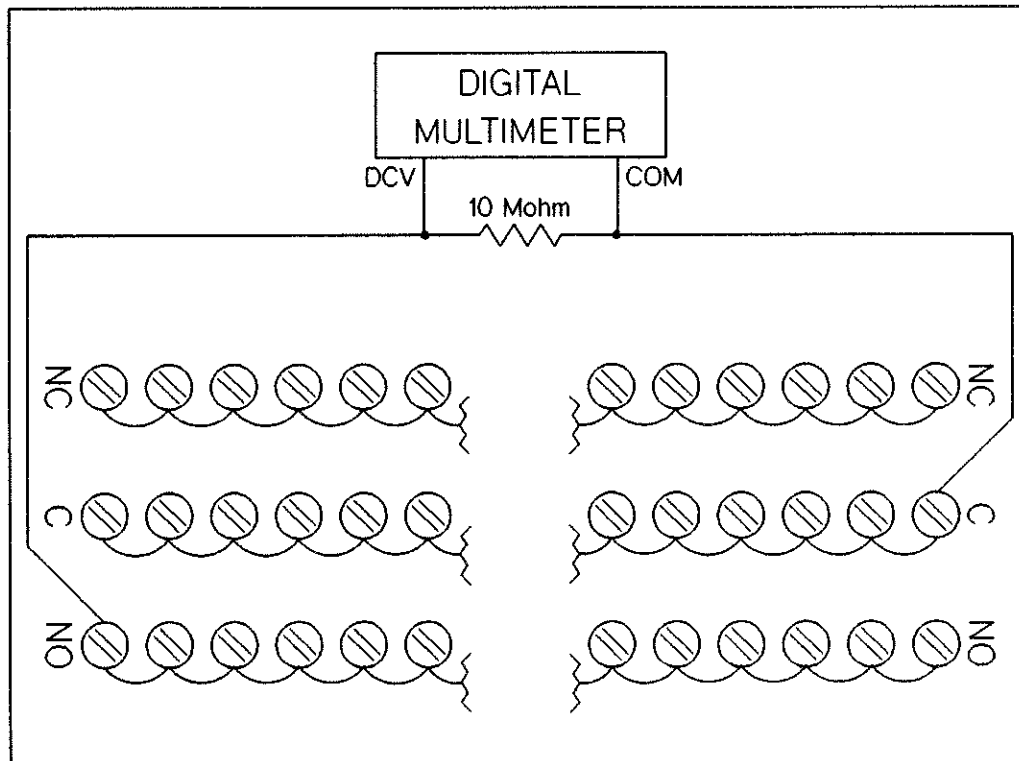
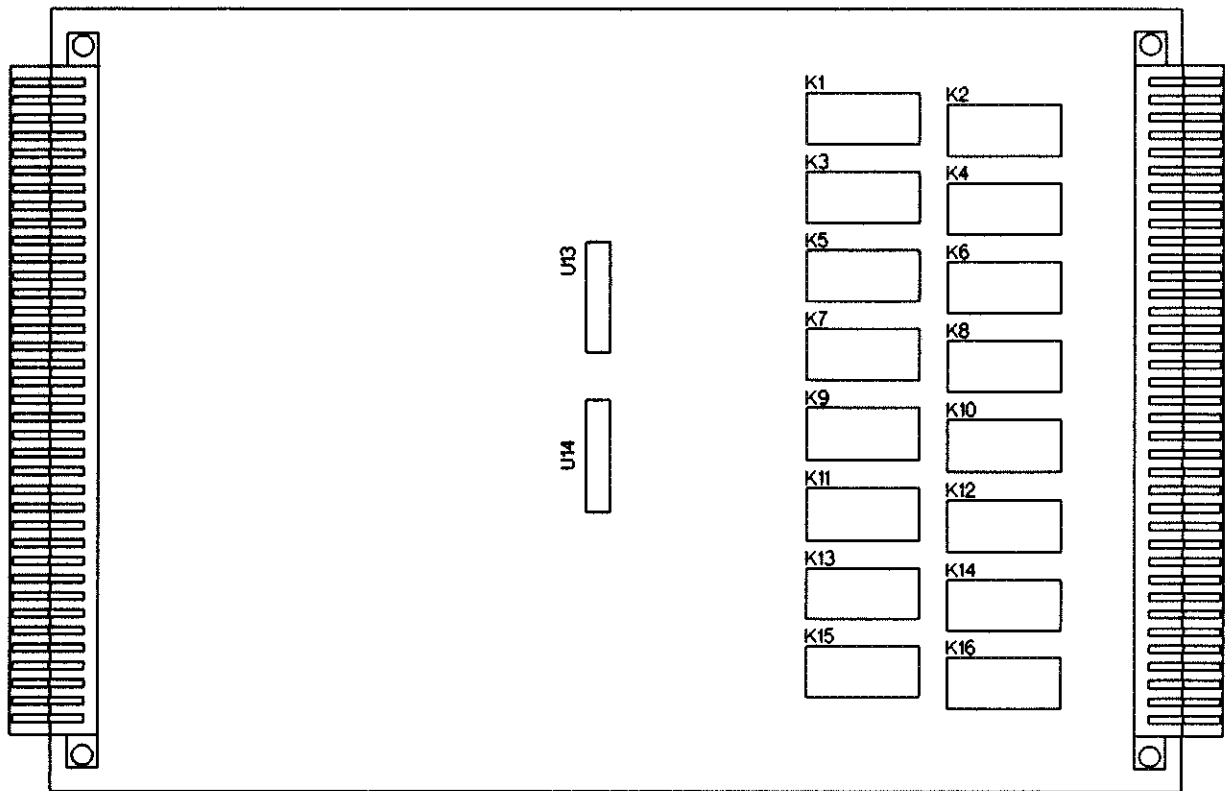

Figure 14-13 HP 44725A NO Channels Injected Current Test
Figure 14-15 Relay Component Locator
2. Refer to Figure 14-13. Connect the multimeter DCV lead to the shorted NO lines of the test fixture. Connect the multimeter COM lead to the shorted C (Common) lines of the test fixture.
Figure 14-15 shows the location of the relays on the component module board. Figure 14-16 shows a simplified schematic of one relay and associated circuitry. Since all the relay circuitry is the same, only one relay circuit is shown in the figure. Also shown in Figure 14-16 is a package outline and pinout diagram of the type of relay used. Use both Figures 14-13 and 14-14, and Table 14-4 for the following troubleshooting procedures.